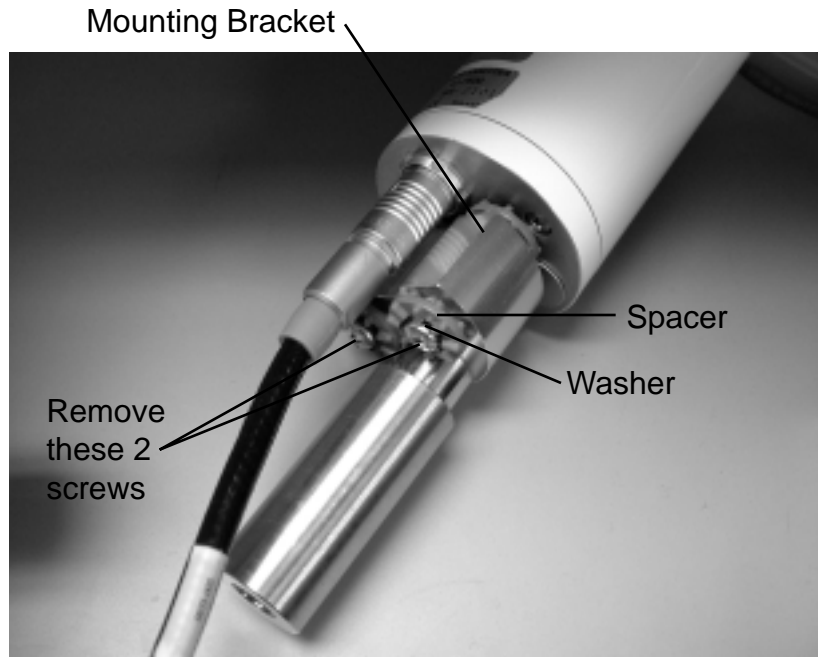

Figure 5-3. Remove the 2 screws on the base of the mounting bracket.
1. The plastic bottles are located in the analyzer housing in the sensor head. They are accessed by removing the mounting bracket from the analyzer housing (Figure 5-3). Remove the two screws on the bottom of the mount; be careful not to lose the spacers and washers.